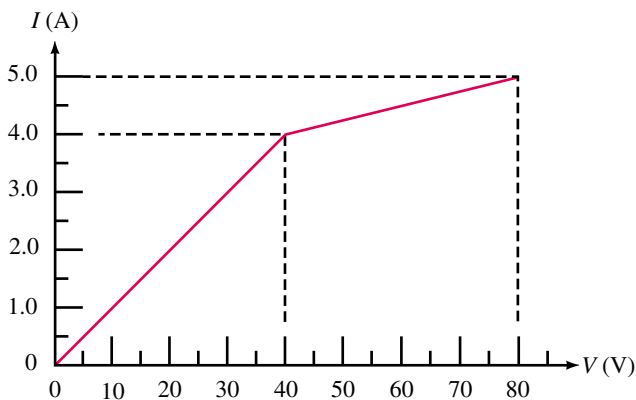

FIGURE 4-41
- 67. A voltage-dependent resistor has the I - V characteristic of Figure 4-41.
- 68. For the resistor of Figure 4-41: